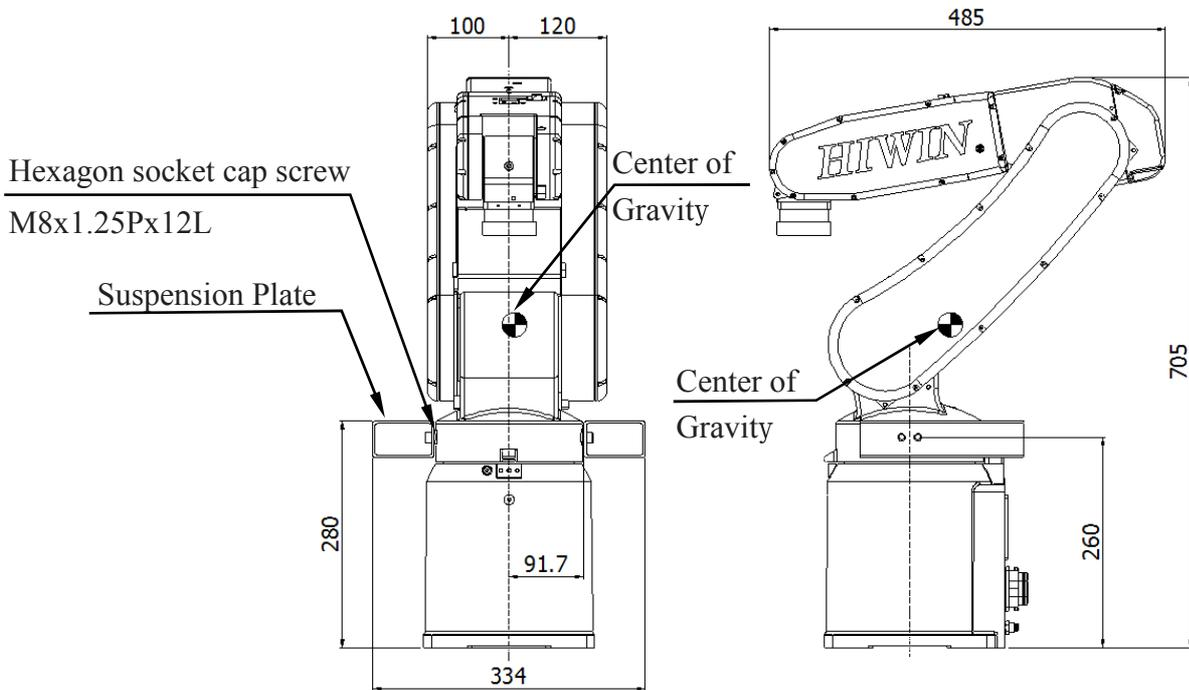
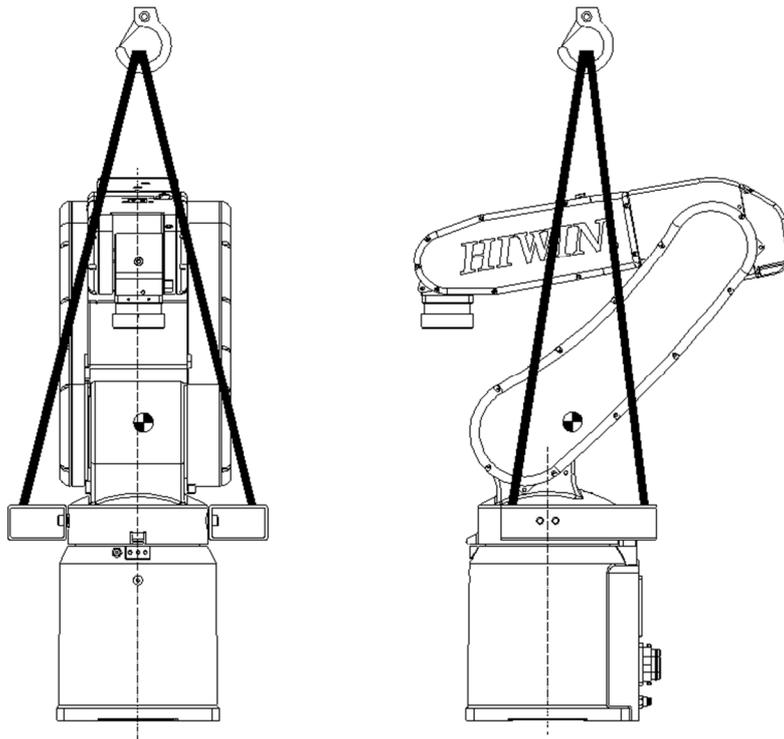

Figure 1-2 RA605-710-GB Transport dimensions
Figure 1-3 Crane lifting transportation
- Step2. Secure the suspension plate to the robot with four M8×1.25P×12L screws as shown in Figure 1-2. Make the sling go through the suspension plate to keep the center of gravity under the hanging point shown as Figure 1-3. Please ensure the robot is in stable condition to avoid overturning.